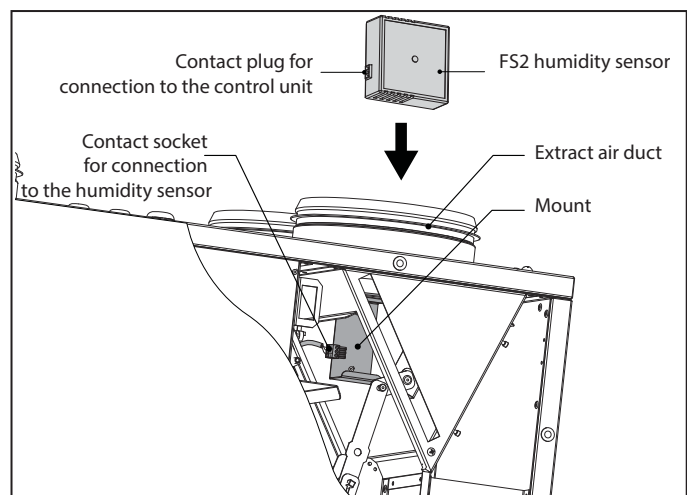

Fig. 11. FS2 humidity sensor mounting
**FS2 HUMIDITY SENSOR MOUNTING (Fig. 11).**